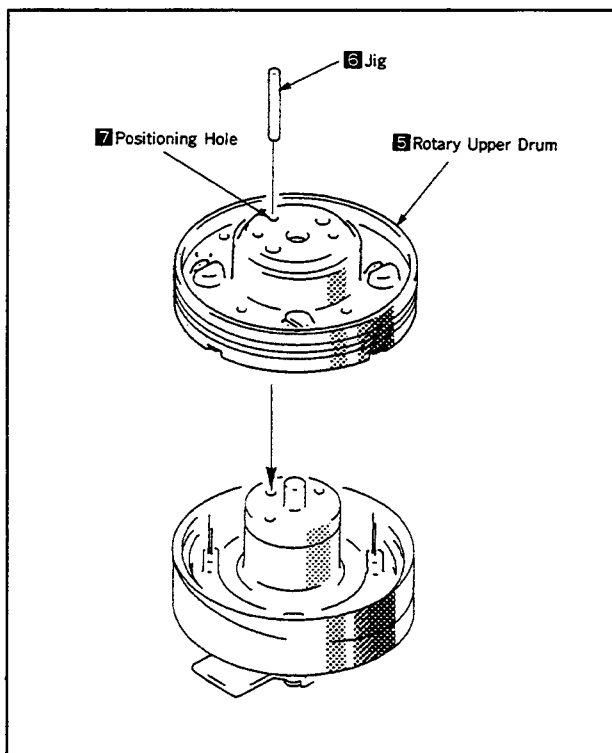

Fig. 31
- 2) Insert the jig **6** (Ref. No. J-10) into the drum positioning hole, then set the rotary upper drum **5** by passing the jig through its positioning hole **7**. (Fig.31)